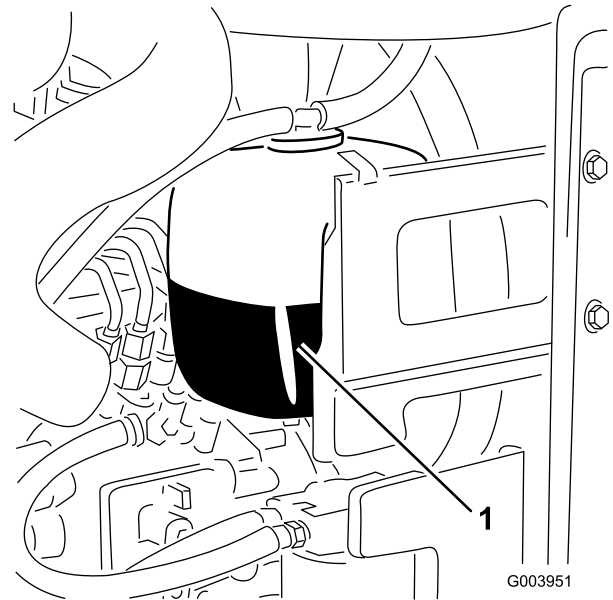

Figure 30
1. Check the level of coolant in the expansion tank (Figure 30).